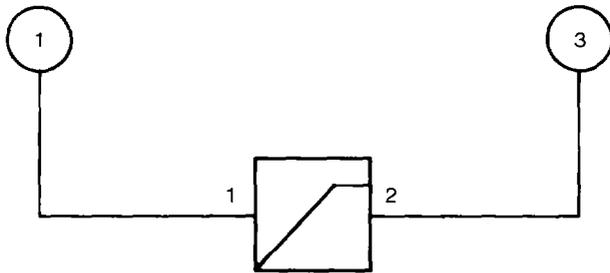

Figure 81 Test Connections
- b. Connect the valve to test rig as shown in Fig 81.